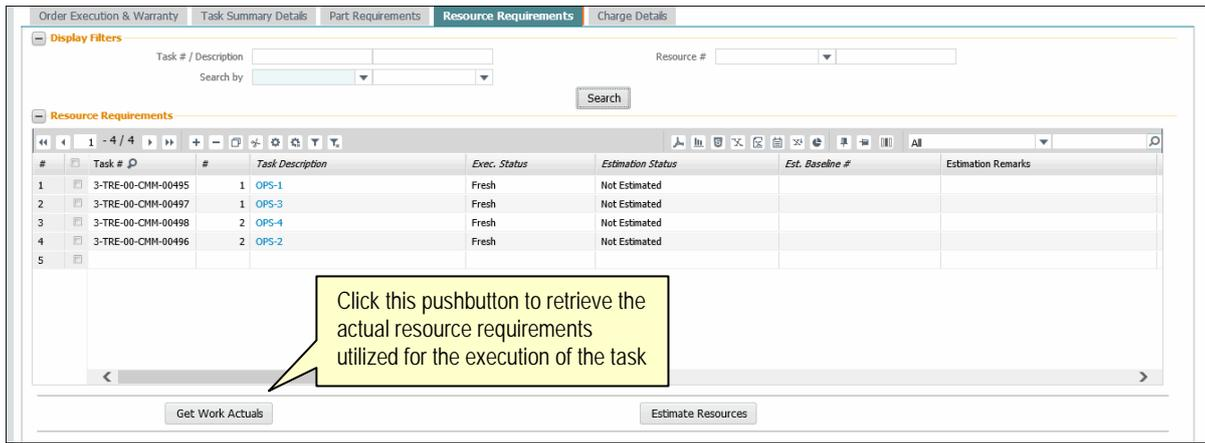

Figure 2.14 Estimating resource requirements
25. Select the **Resource Requirements** tab in the **Edit Work Estimates** main page. *See figure 2.14.*